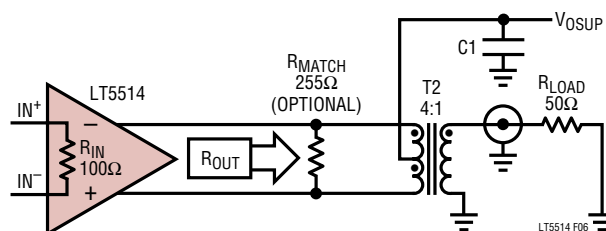

Figure 6. Output Impedance-Matched and Transformer-Coupled to a Single-Ended Load
- The insertion loss of the output impedance transformation network (for example the transformer insertion loss in Figure 6)
- About -3dB loss if a matching resistor (R_{MATCH} in Figure 6) is used to provide output load impedance back-matching (for example when driving transmission lines)